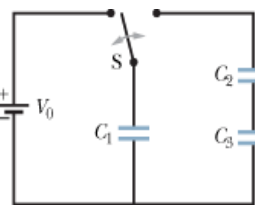

Figure 2
- Figure 2 displays a  $12.0 \text{ V}$  battery and 3 uncharged capacitors of capacitances  $C_1 = 4.00 \mu\text{F}$ ,  $C_2 = 6.00 \mu\text{F}$ , and  $C_3 = 3.00 \mu\text{F}$ . The switch is thrown to the left side until capacitor 1 is fully charged. Then the switch is thrown to the right. What is the final charge on (a) capacitor 1, (b) capacitor 2, and (c) capacitor 3?